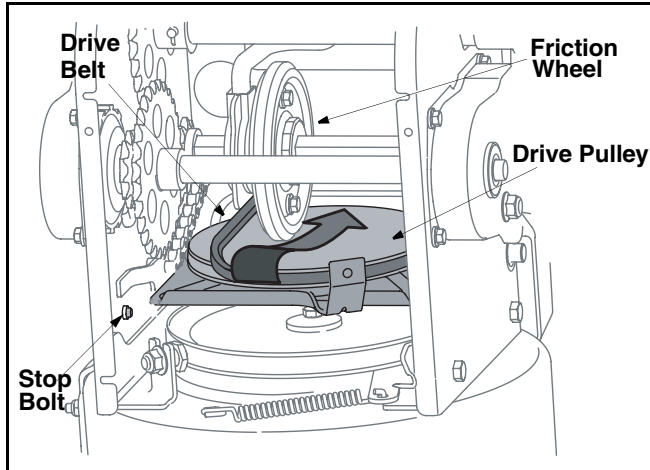

Figure 18
4. Back out the stop bolt to create sufficient gap between the friction wheel disc and the drive pulley. Pull the drive belt from around the drive pulley and clear it off the friction wheel disc. See Figure 18.